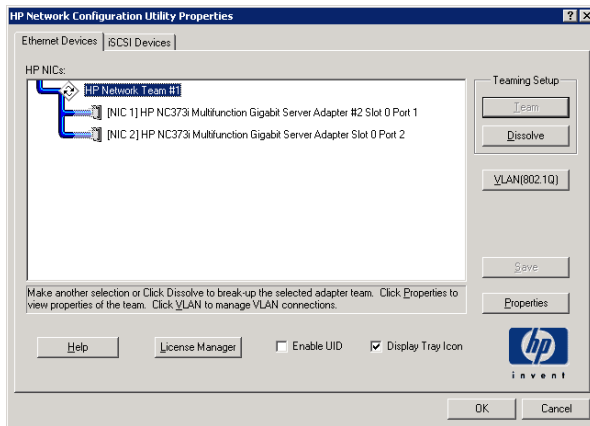

Figure 3.3 Showing the Teamed NICs
4. When the team is created, an icon at the 'root' level of the network adapter tree is created (see Figure 3.3):
- Return to the menu shown in Figure 3.3. Click on NIC 1 and select **Properties**. Ensure the Speed/Duplex Setting is set to **Auto**. Repeat for NIC 2. This is very important. Do not manually set the speed or duplex of the NIC, or the port on the Cisco into which the server is connected. Please see the document on Server/Client Machine Setup for further details.